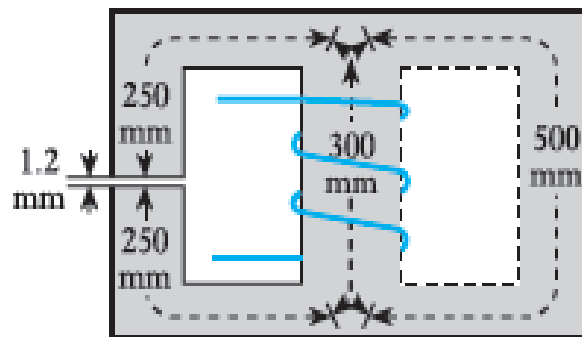

Figure:3
Q.4 A magnetic core made of mild steel has the dimensions shown in Fig. 3. There is an airgap 1.2 mm long in one side limb and a coil of 400 turns is wound on the centre limb. The cross-sectional area of the centre limb is 1600 mm² and that of each side limb is 1000 mm². Calculate the exciting current required to produce a flux of 1000 μWb in the airgap. Neglect any magnetic leakage and fringing. **[5.85 A]**